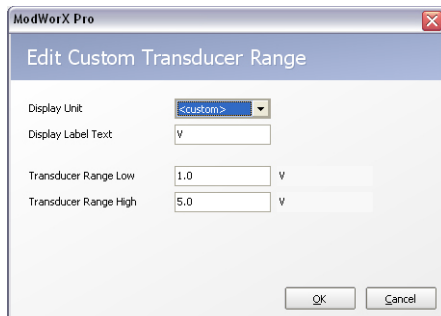

Figure 6.21
- The Edit Custom Transducer Range dialog will appear (Figure 6.21).
- d. If a Custom Sensor Type is selected, click the **Edit** button next to Sensor Parameters to access the Transducer Range Low and Transducer Range High settings (see the Edit Custom Transducer Range dialog in Figure 6.21, page 87).